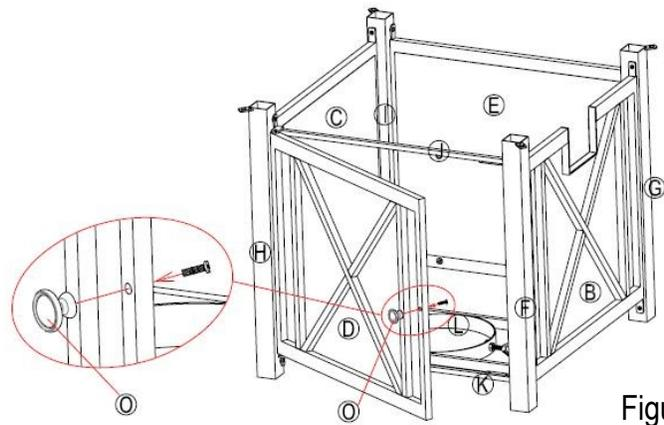

Figure 7
- Unpack the Handle (O) package, loosen the screw, attach the Handle (O) to the Door (D) by using the phillips screw driver, then screw it tightly, (see Figure 7).